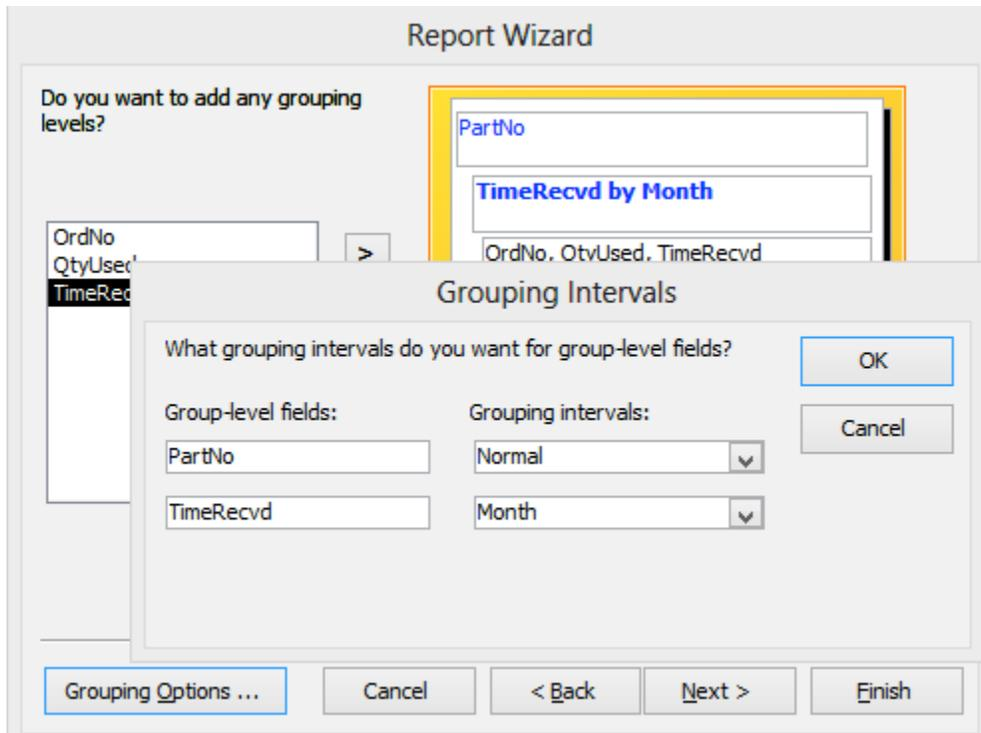
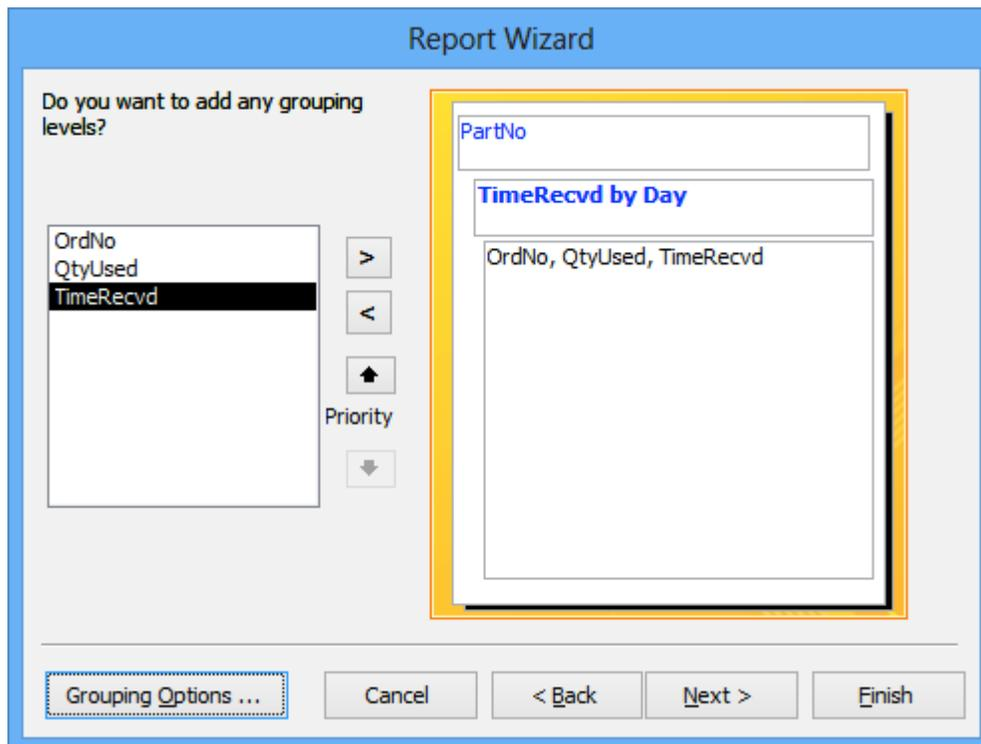

Figure 2: Grouping Window and Grouping Interval Window
Figure 3: Corrected Grouping Window
- Click the **Grouping Options...** button at the lower left of the window (Figure 2). Note that the Grouping Intervals column for the *TimeRecvd* field is set to “Month”. Change the grouping interval to “Day” for the *TimeRecvd* field by choosing “Day” from the drop down menu. After clicking the **OK** button, the Grouping window appears as in Figure 3. Click the **Next >** button to continue.